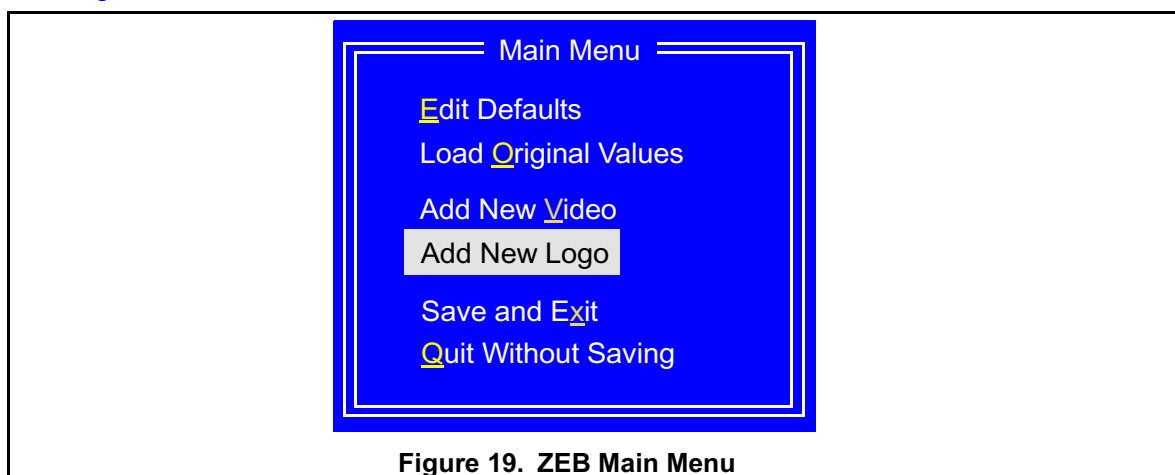

Figure 19. ZEB Main Menu
2. Select the **Add New Logo** menu item from the Main Menu, and press the Enter key. See Figure 19.